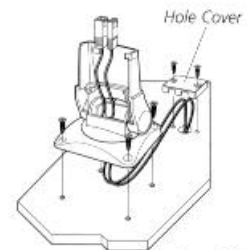

Figure 24
***Optional: If the cables pass outside the mounting bracket, install the hole cover over the hole and fasten in place using the two #8 x 7/8" (22mm) wood screws (Figure 24).***